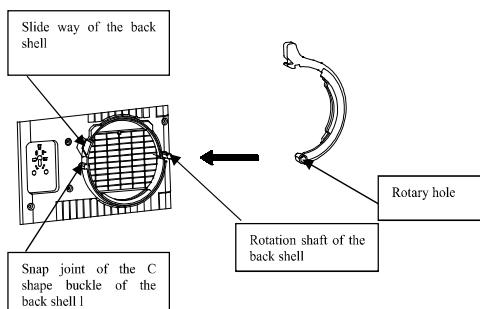

Figure 3
- 2). Point the rotary hole at the end of the heat exhaust hose snap toward the rotation shaft of the back shell and slide it onto the back shell in accordance with the snap joint direction of the rotation shaft on the back shell (as shown in Figure 3).